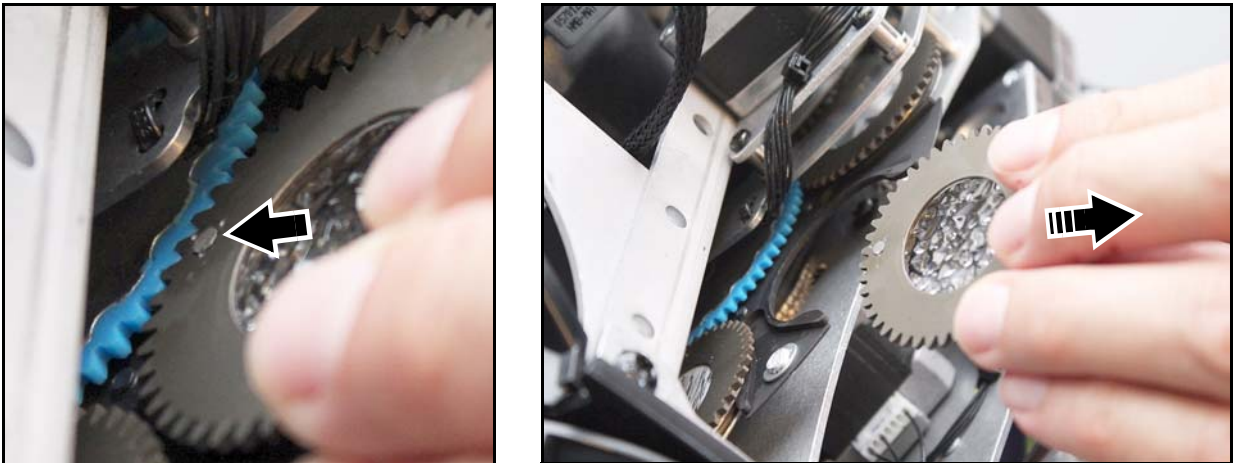

Figure 13: Removing a rotating gobo
2. See Figure 13. Turn the rotating gobo wheel until the gobo you want to replace is easily accessible. Avoid disturbing the gobo wheel for the rest of the procedure.